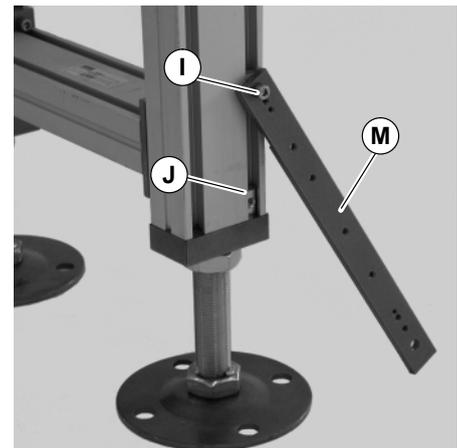

Figure 10
2. Loosely attach top hole of mounting bar (M of Figure 10) to T-bar with screw (I). Install second T-bar (J) into T-slot.